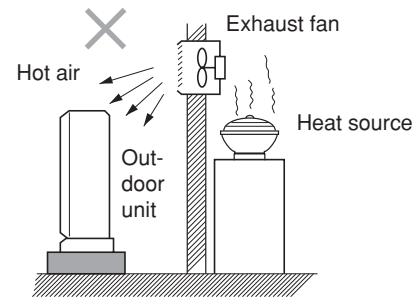

Fig. 2-4
- heat sources, exhaust fans, etc. (Fig. 2-4)